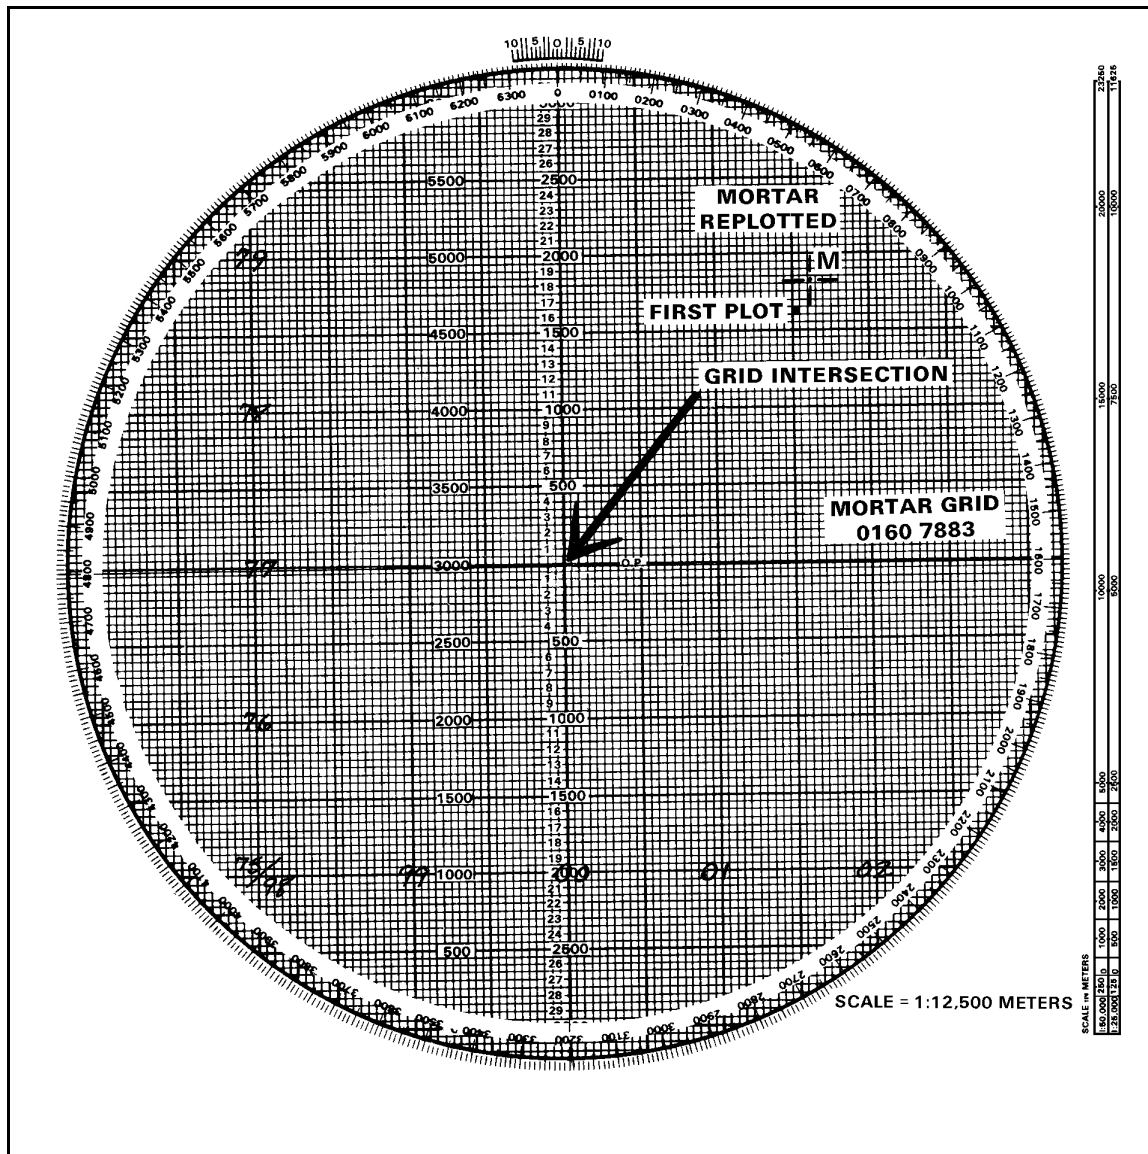

Figure 12-19. Replotting of mortar location.
- (4) Rotate the azimuth disk and index "0."
(5) Determine the 1,000-meter grid that contains the mortars (Figure 12-19). The first, second, fifth, and sixth numbers of the mortar grid give the 1,000-meter grid square.